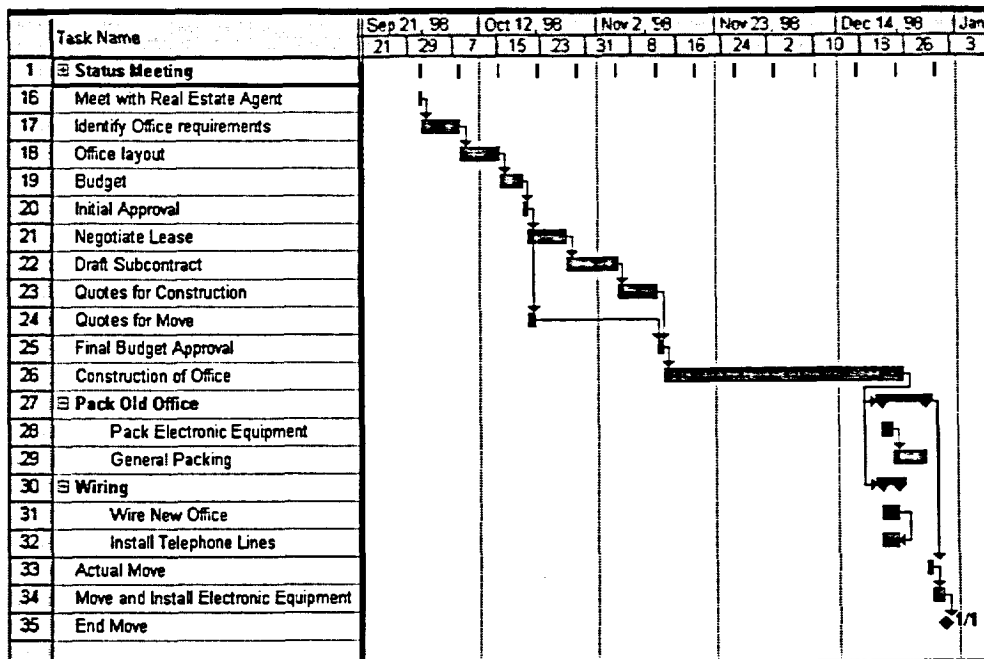

Figure 2-12: The Finished Project
24. Zoom out until the entire project is visible in the chart pane, as shown in **Figure 2-12**.